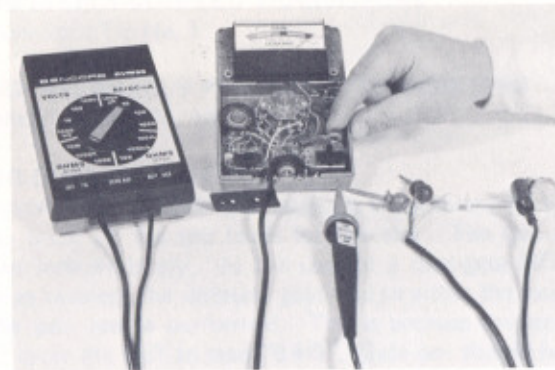

Fig. 23 Adjusting Leakage Calibration Control
5. Insert a 2K variable resistor in series with a DC milliammeter. Connect the red test lead of the TF40 to the positive terminal of this series combination, and the yellow lead to the negative terminal. (See figure 23).